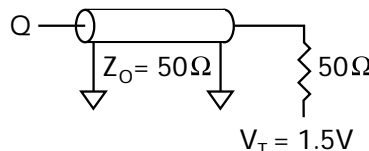
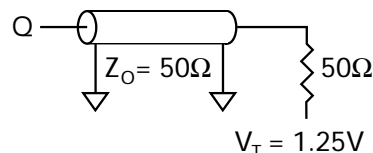

Figure 1
Figure 3
- Test conditions as specified with the output loading shown in Figure 1 for +3.3V I/O ($V_{DDQ} = +3.3V \pm 0.165V$) and Figure 3 for 2.5V I/O ($V_{DDQ} = +2.5V \pm 0.125V$) unless otherwise noted.
Output load	See Figures 1 and 2
Output load	See Figures 3 and 4